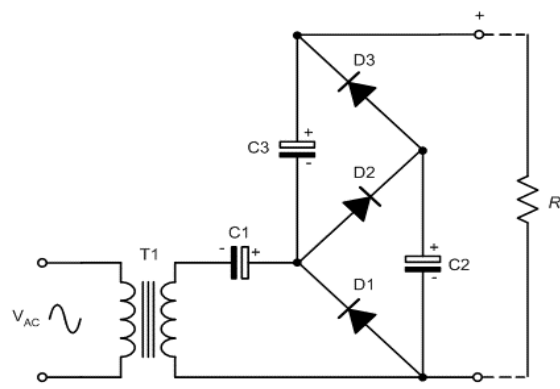

Figure 1.20 A voltage Tripler
- The voltage doubler can be extended to produce higher voltages using the cascade arrangement shown in Fig. 1.20.